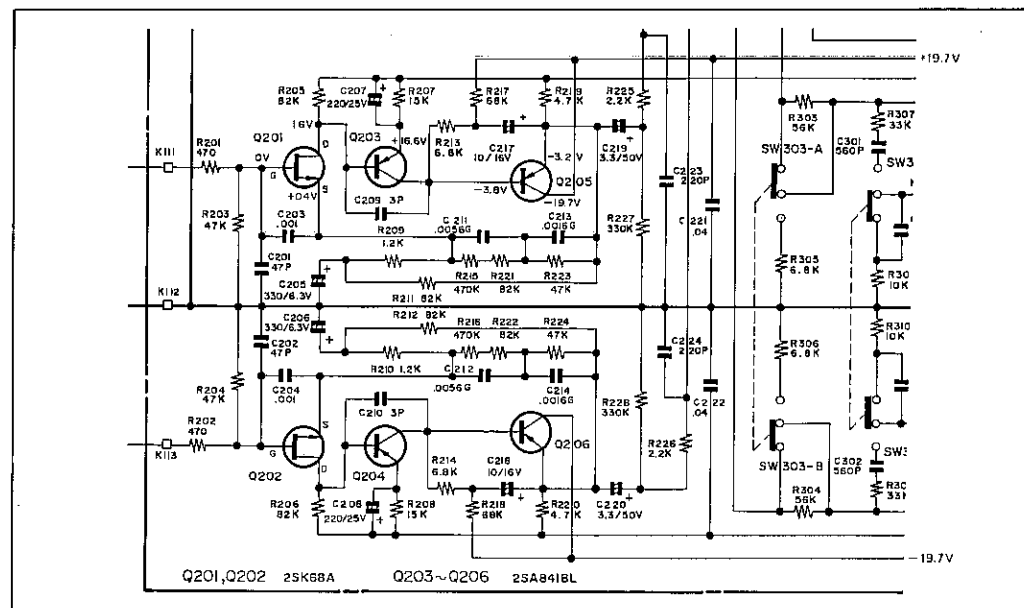

Figure 9
■ EQUALIZER CIRCUIT (See Figure 9)